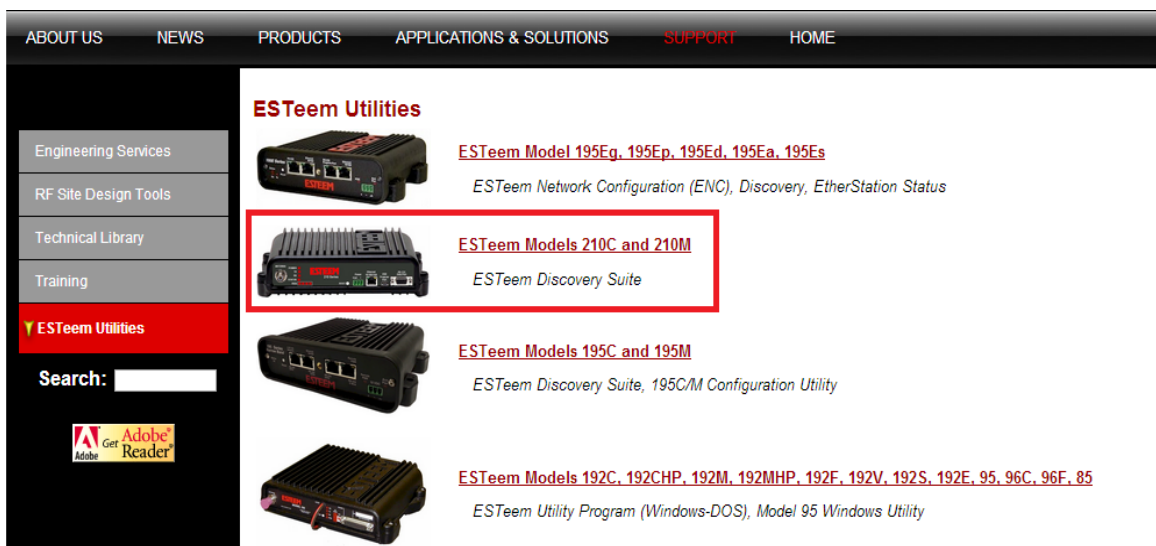

Figure 3: Utility Model List
2. From the Main Page select ESTeem Utilities from the Support Tab and choose the correct Model of your ESTeem modem, in this case the Model 210 (Figure 3).